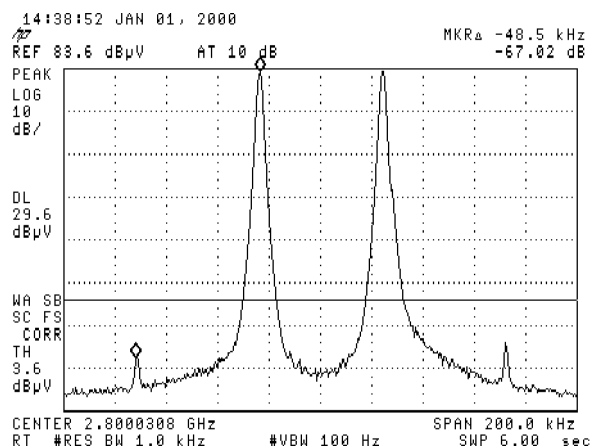

Figure 2-51. Third Order Intermodulation Distortion, HP 8595EM
44. The third-order intermodulation distortion products should appear 50 kHz below the lower frequency signal and 50 kHz above the higher frequency signal. Their amplitude should be less than the display line. See Figure 2-51.
The third-order intermodulation distortion products should appear 50 kHz below the lower frequency signal and 50 kHz above the higher frequency signal. Their amplitude should be less than the display line. See Figure 2-51.